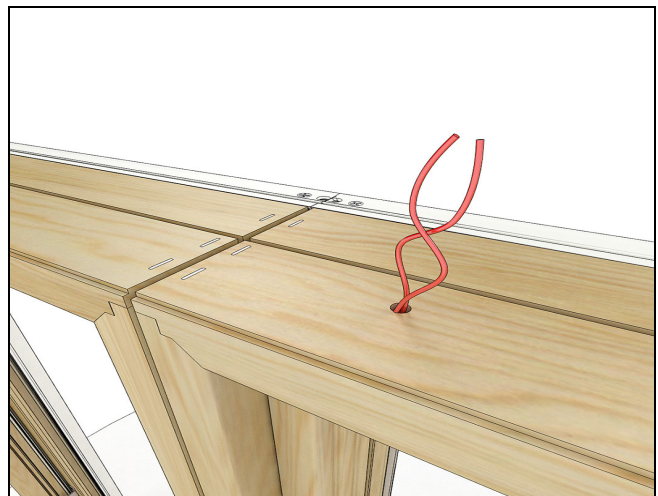

Figure 7
2. Fish wire through the factory provided 1/4" hole located in the head jamb. See Figure 7.